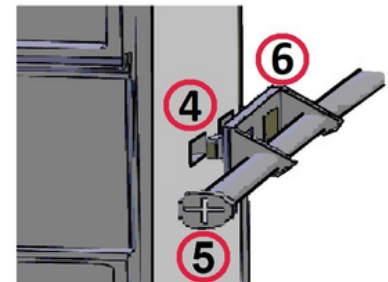

Figure 7: Entry Point of the Metal Apparatus
- The metal securing bracket, shown as number (6) in Figure 7, is attached to the dual metal slot on the side surfaces of the device, marked as number (4), so that the clips fit into the slots.